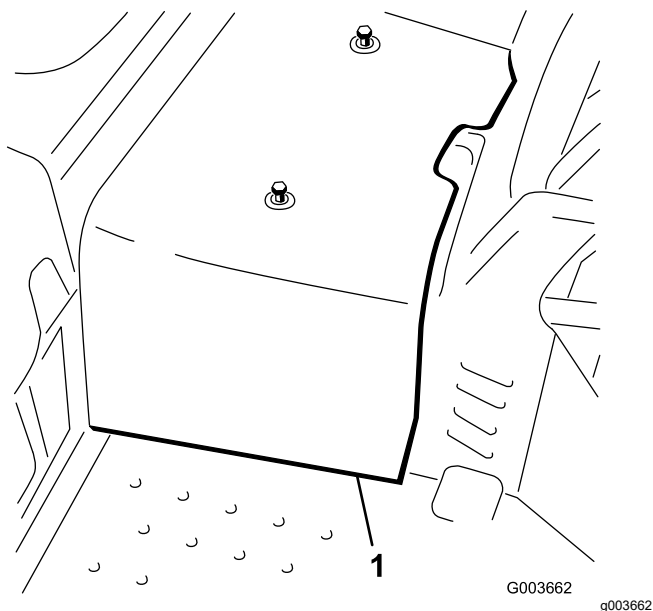

Figure 3
8. Disconnect and remove the center shroud from the frame (Figure 3).